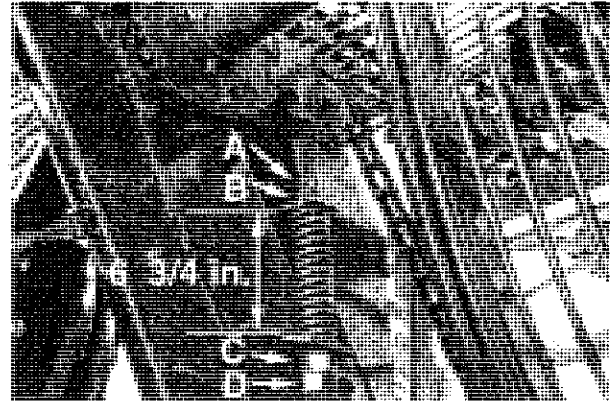

Figure 40. Wheel Elevator Drive
To adjust the tension, loosen the jam nut (Figure 40-A) and turn the adjusting nut (B). Set the dampener spring length to 6-3/4" by loosening the jam nut (D) and turning the adjusting nut (C). This is factory set and should not need to be changed.
Operate the wheel elevator until the chain connector link is positioned near the drive shaft. Loosen the jam nut (Figure 40-A) and turn the adjusting nut (Figure 40-B) until the maximum chain slack is obtained. Disconnect the chain.
**NOTE:** It is very important that the drive sprocket and idler sprocket (see Figure 40) be in alignment with each other and centered on the slots in the wheel. Make sure they are properly adjusted.